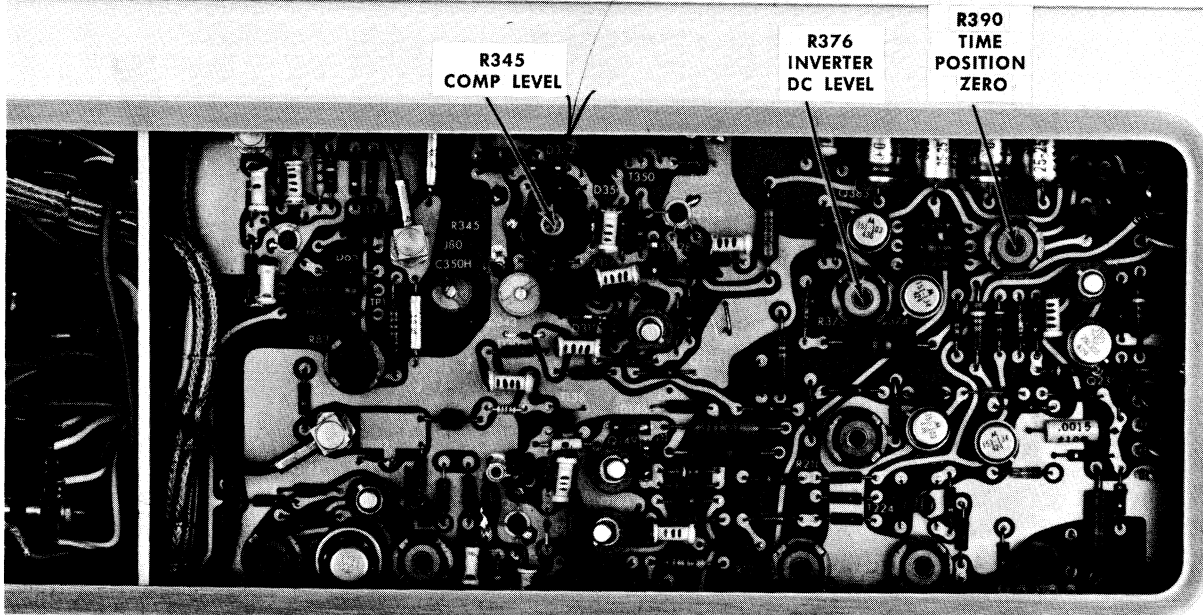

Fig. 5-31. Equivalent-time sweep registration controls.
- Adjust** R376 (INVERTER DC LEVEL) if the top of the waveform is not at zero volts. See Fig. 5-31 for the location of R376.
- h. Set R390 (TIME POSITION ZERO) fully counterclockwise. See Fig. 5-31 for the location of R390.
- m. **Adjust** R345 (COMP LEVEL) for the best possible transition from the line to the waveform. See Fig. 5-31 for the location of R345. With R345 adjusted correctly, it is set near the clockwise end of the range that will allow the sweep to run. If the control is turned too far clockwise, the waveform will disappear.